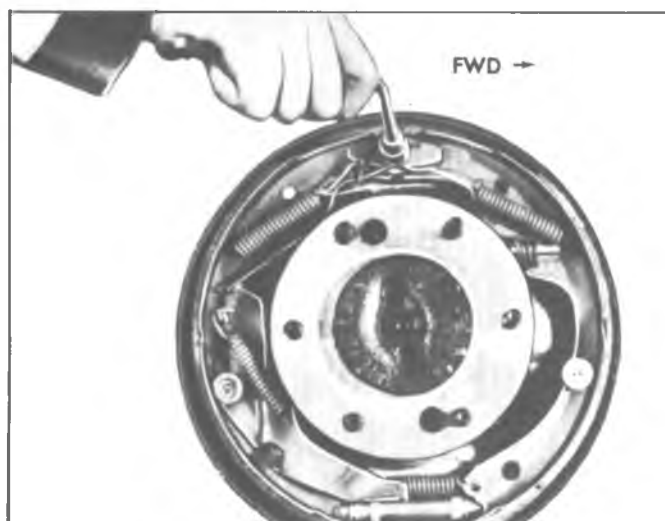

Fig. 46--Unhooking Pull Back Spring
4. Unhook brake shoe pull back springs from anchor pin and link end, using Tool J-8049 (fig. 46).